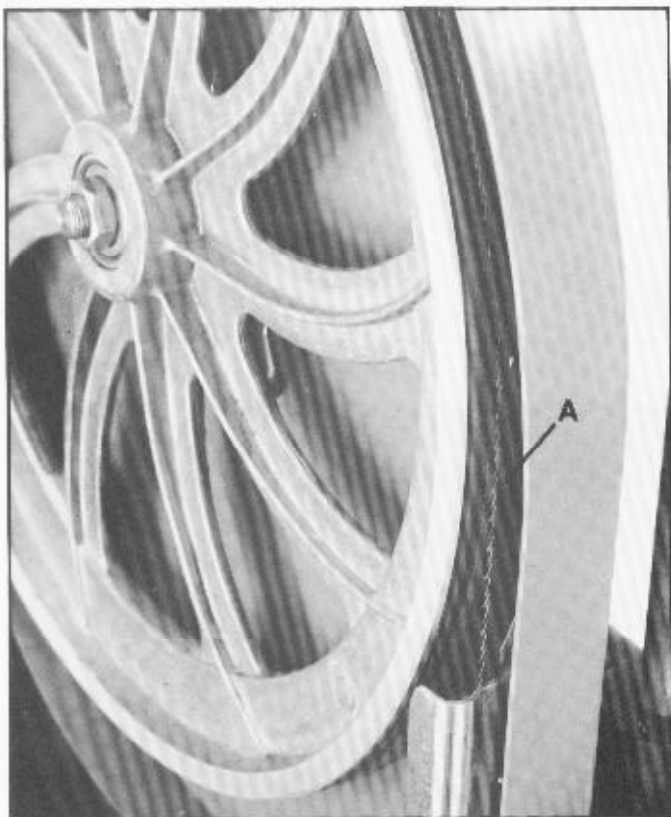
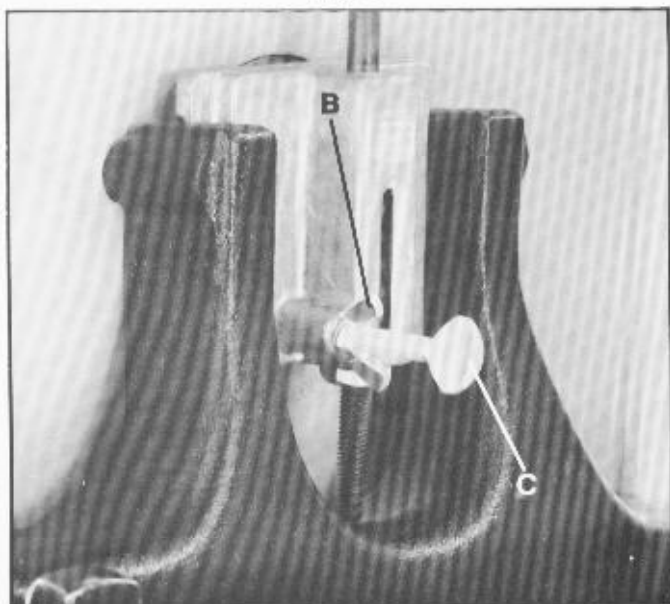

Fig. 16
Fig. 17
After tension has been applied to the blade, revolve the wheels slowly forward by hand and watch the blade (A) Fig. 16, to see that it travels in the center of the upper tire. If the blade begins to creep toward the front edge, loosen the wing nut (B) Fig. 17, and tighten the thumb screw (C). This will tilt the top of the wheel toward the back of the machine and will draw the blade toward the back edge, turn the thumb screw in the opposite direction. Adjust the thumb screw (C) Fig. 17, only a fraction of a turn at a time. **NEVER TRACK THE BLADE WHILE THE MACHINE IS RUNNING.** After the blade is tracking in the center of the tires, tighten the wing nut (B) Fig. 17.